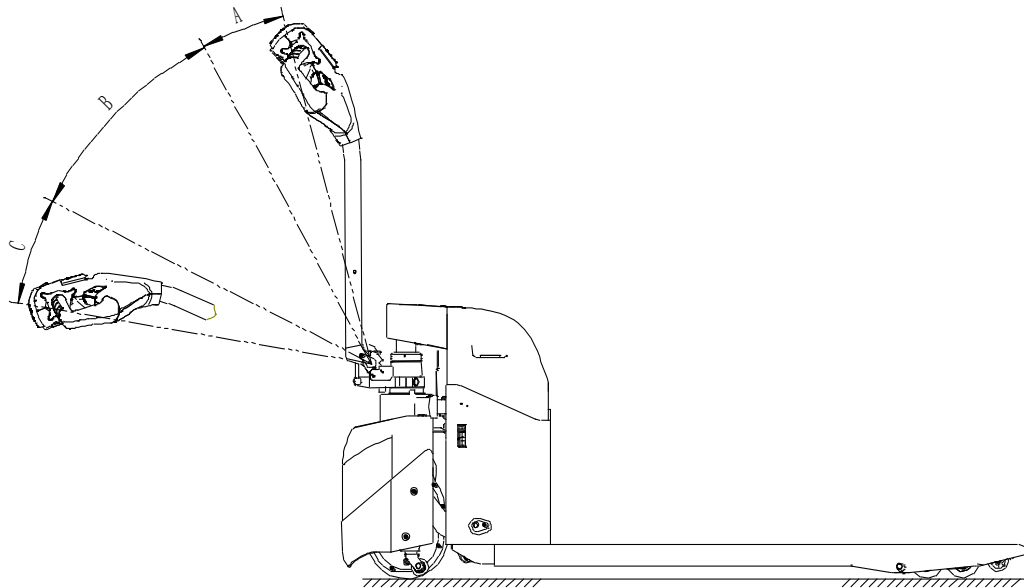

Fig 2
- Figure 2 bend the handle to keeping the handle in the Section B area.